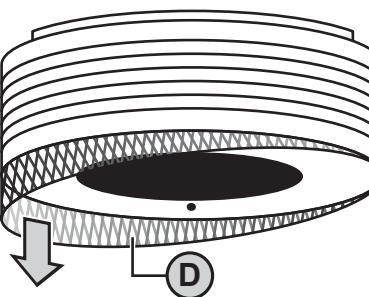

Figure 4
- Remove old insect screen (D) from device (fig. 4).